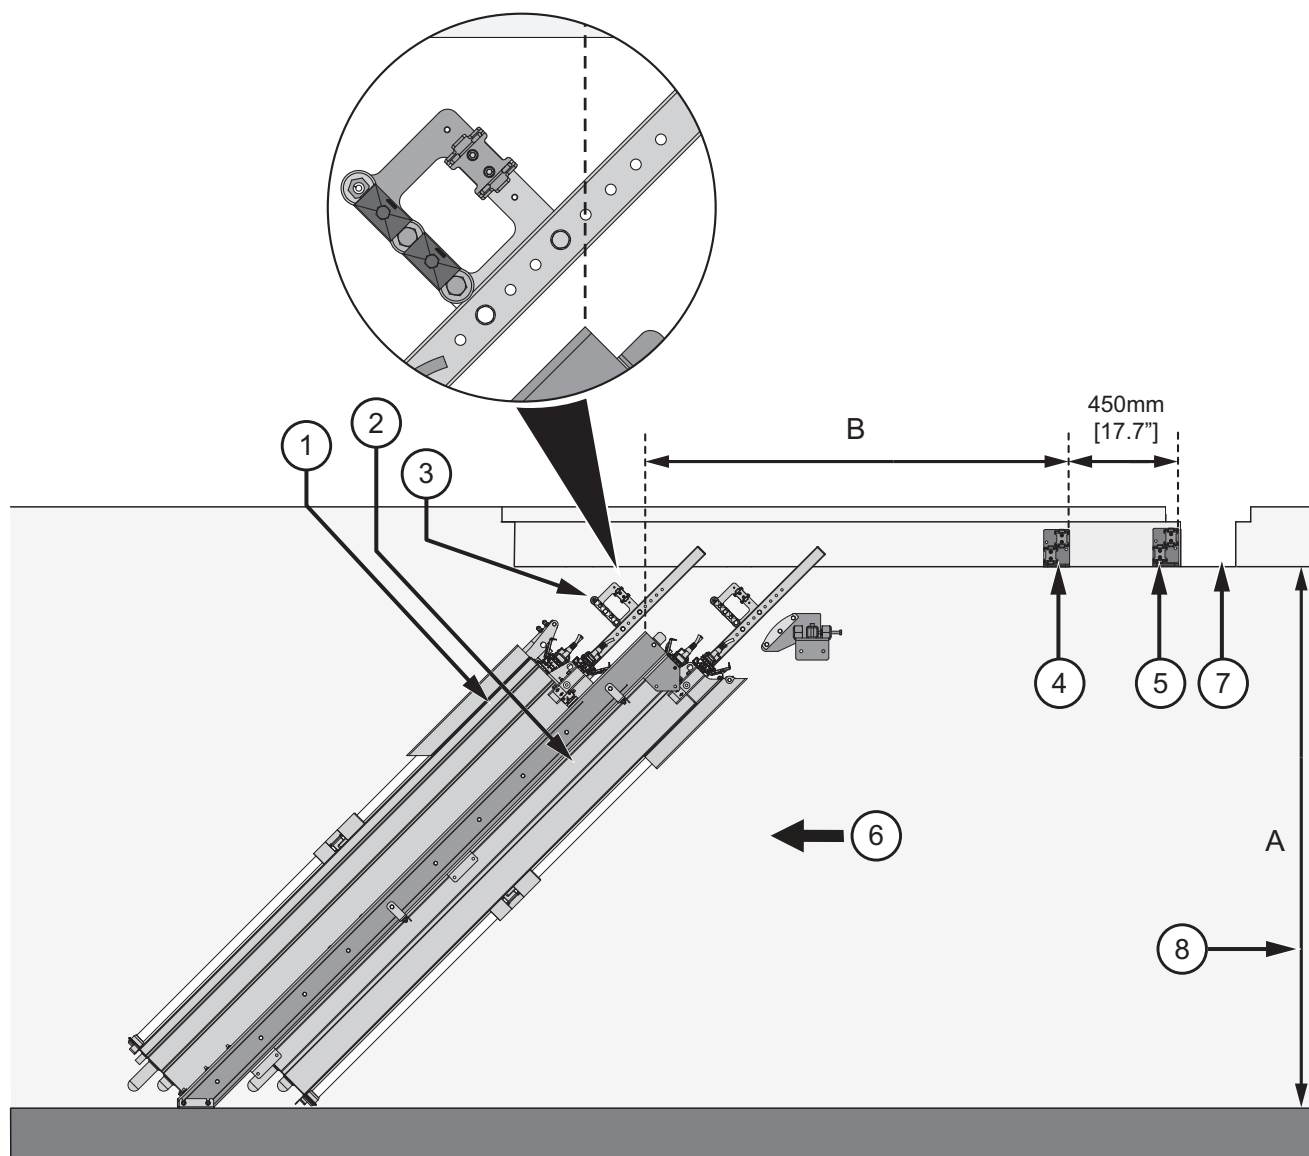

Figure 18 Section View
- For Deep Channel Bracket Assemblies – refer to Figure 18 and Figure 19.